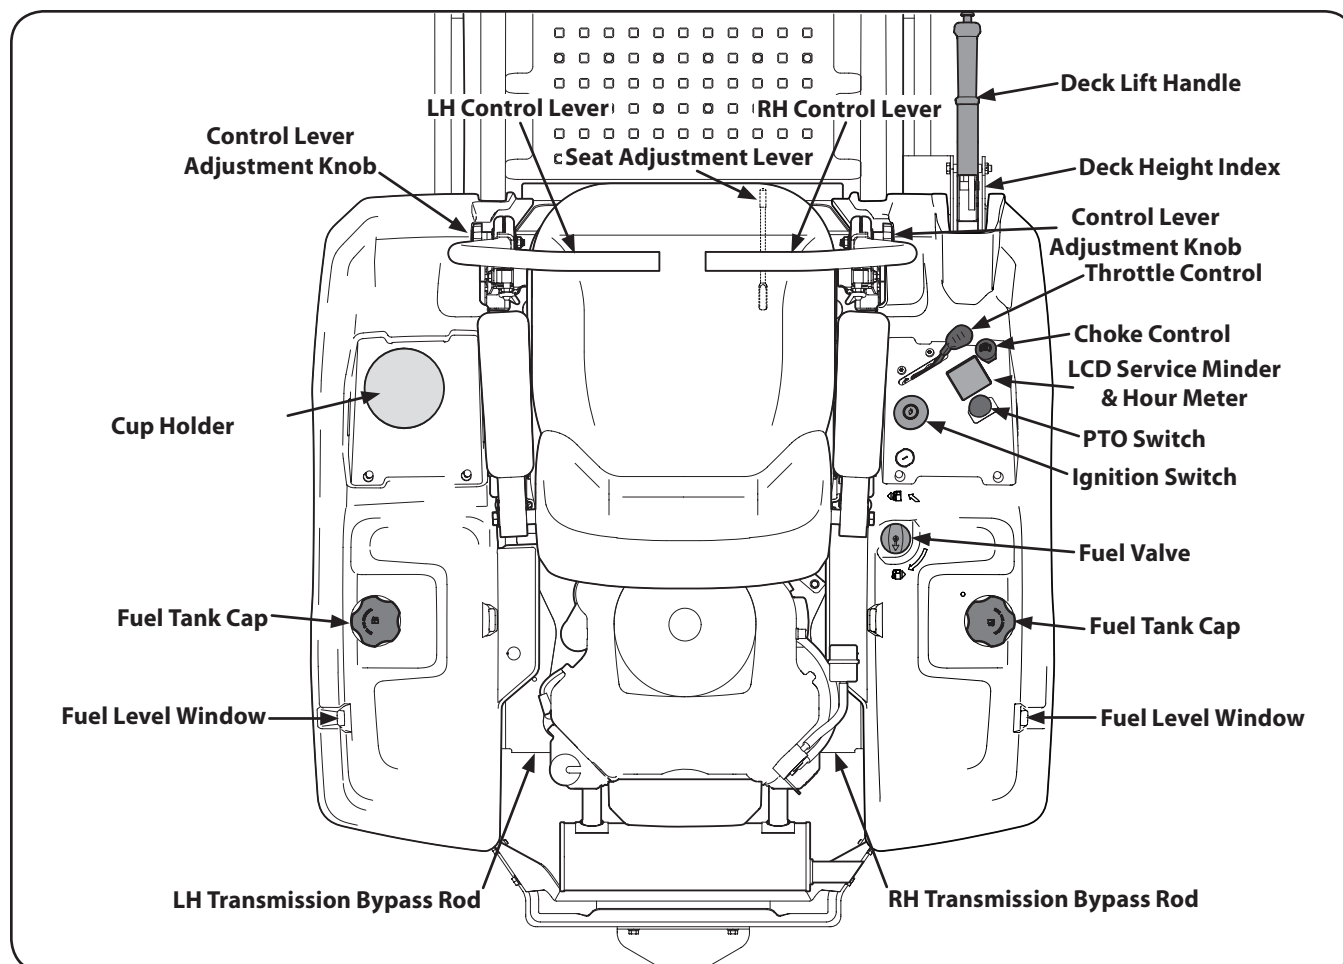

**Figure 3-9**
1. Remove the hex flange screws and flange lock nuts that secure the hitch bracket to the bumper. See Figure 3-9.